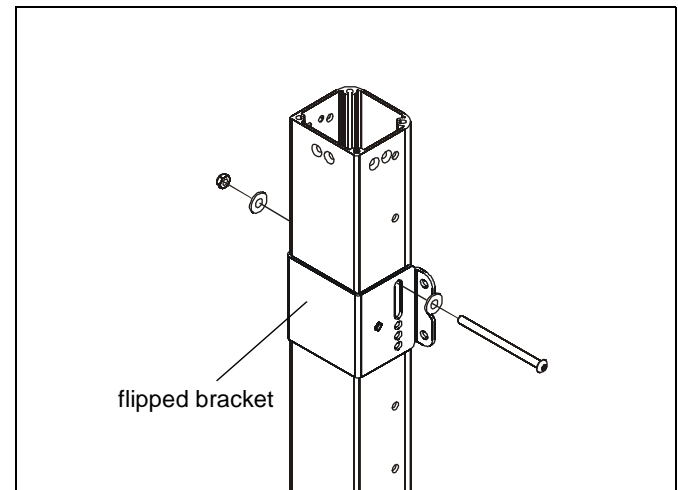

Figure 6
NOTE: Clamp brackets (P) may be flipped in order to use long slots for installation if necessary. (See Figure 6)